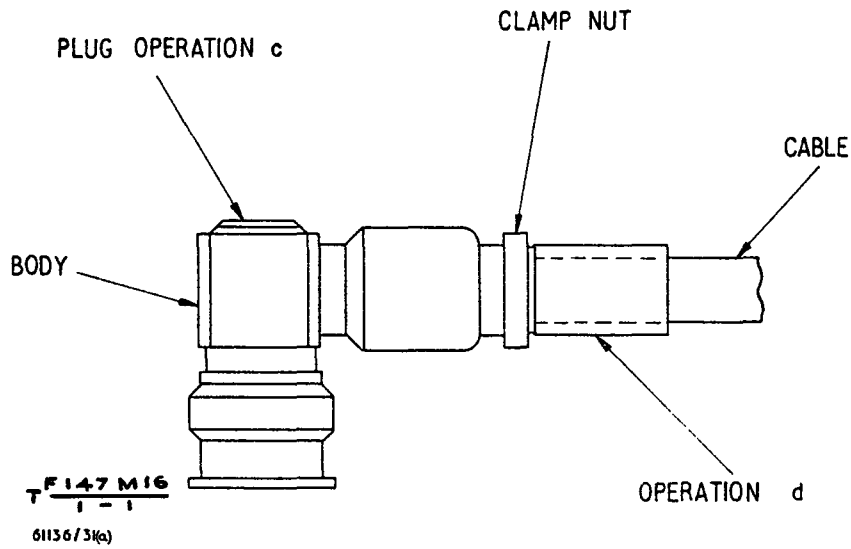

Fig 1 - Position of 3/16 in. sleeve
d. Position the 3/16 in. dia sleeve to abut against the rear of the clamp nut (see Fig 1). Shrink sleeve by applying heat, using a torch, hot air blower (heat gun) or other heat source. The sleeve starts to shrink at 250-275°F. As heat is applied move heat source back and forth over the part to be shrunk. When the sleeve has shrunk to the cable, discontinue heating. Additional heating will NOT make the sleeve shrink more tightly.